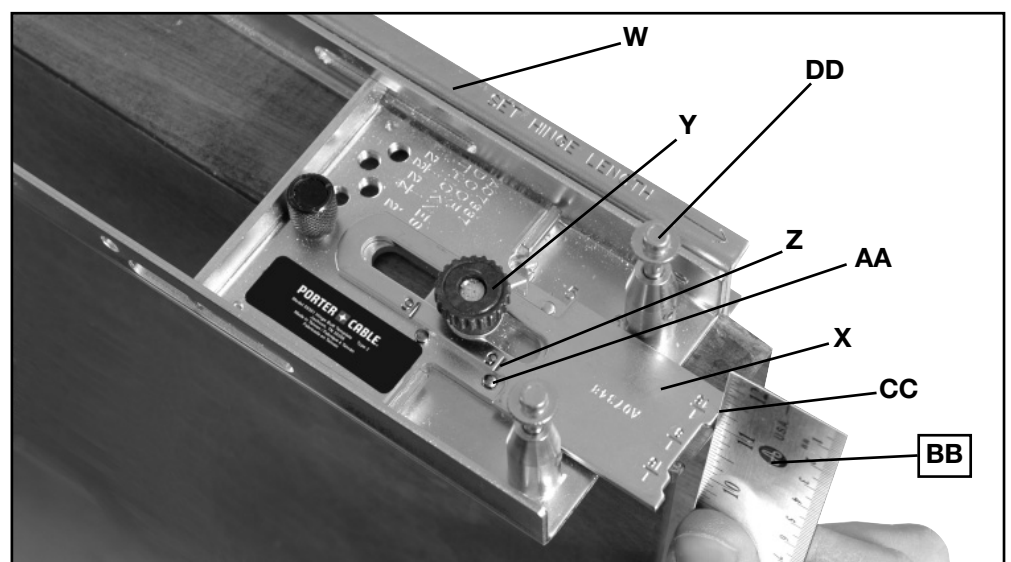

Fig. 8
- Facing door, set the assembled Hinge Butt Template on edge of door. In the right template section (W) Fig. 8, attach the 5" (or short) end gauge (X) underneath the right side thumb nut and washer (Y). Line up the end gauge (X) so the scribed line (Z) next to the number 5 is in the center of alignment pin (AA).
- Place a straight edge (BB) against the top (right end) of the door. Move template so that the 1/16" step (CC) in the end gauge (X) is touching the straight edge and nail the template in place.
Pull the nails securing template to door by inserting the claw end of a claw hammer under nail heads, one of which is shown at (DD) Fig. 8.